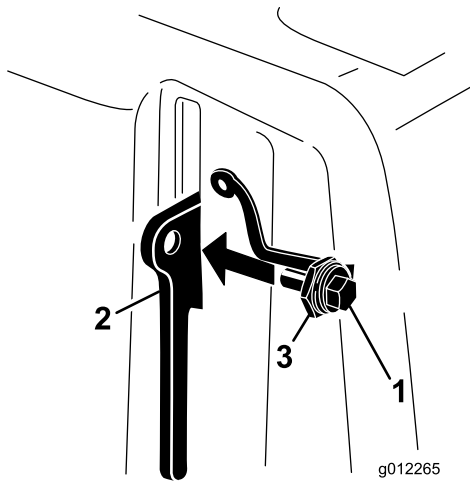

Figure 10
- Thread the bolt into the belt cover latch lever (Figure 10).